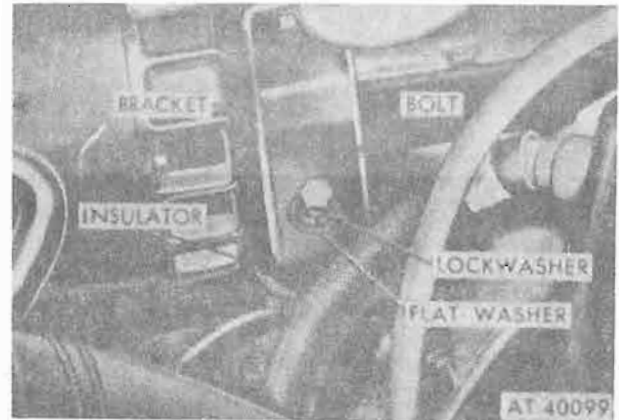

Figure 4-34. Left front bracket.
(27) Remove left front bracket mounting bolt flat washer and lockwasher (fig. 4-34).